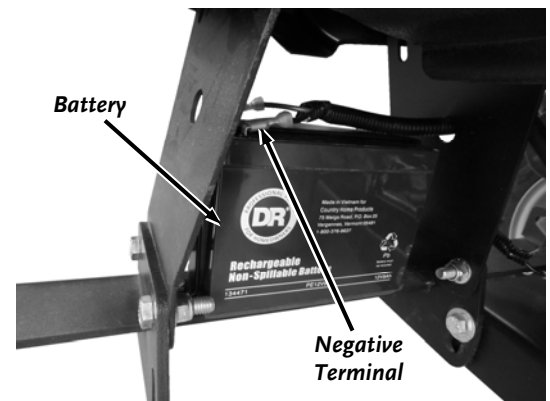

Figure 16
1. Connect the Black Negative Terminal onto the negative Battery Lug (**Figure 16**).